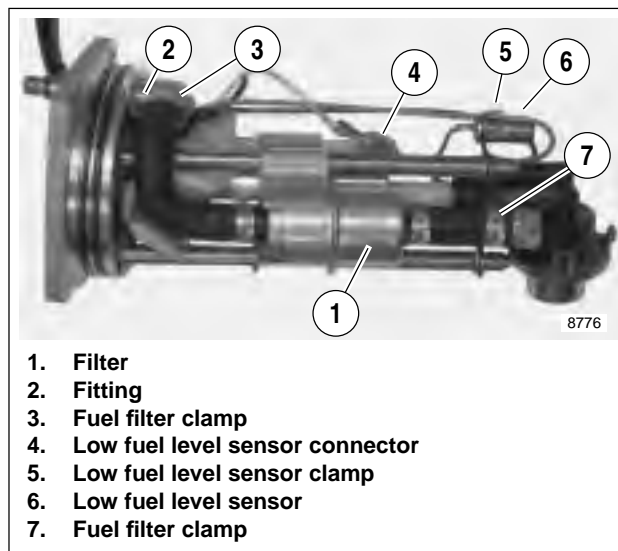
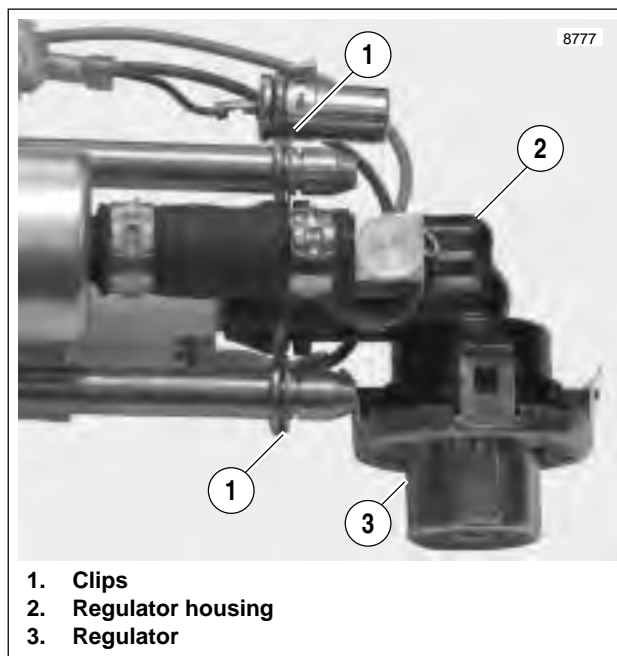
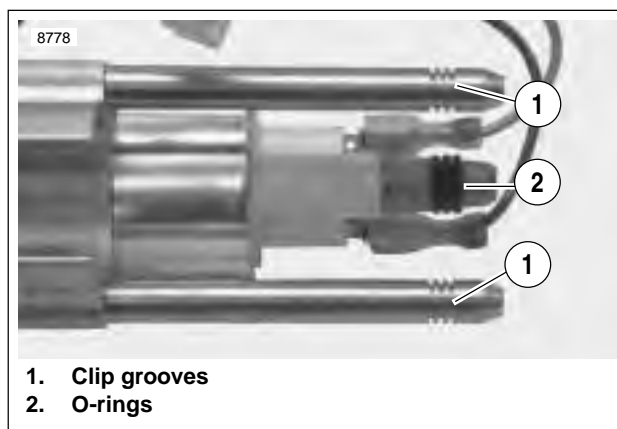

Figure 4-89. Fuel Pump Assembly (right side)
Figure 4-90. Fuel Pump Clips
Figure 4-91. Regulator Housing O-rings
2. See Figure 4-89. Disconnect low fuel level sensor connector (4).
3. Remove clamp (5) securing low fuel level sensor (6) in place.
2. See Figure 4-89. Remove fuel pump clamps (3, 7).
3. See Figure 4-90. Remove fuel pump clips (1).
4. Pull regulator housing (2) from fuel pump assembly.
5. See Figure 4-91. Discard regulator housing o-rings (2).
6. See Figure 4-89. Remove fuel filter hose from fitting (2) and remove fuel filter (1).
8. Install **new** fuel filter hose with 90° bend towards fitting (2).
9. See Figure 4-91. Install **new** regulator housing o-rings.
11. See Figure 4-89. Tighten fuel filter clamps (3, 7).
12. See Figure 4-90. Install clips (1) into center grooves.
2. See Figure 4-89. Remove fuel filter clamp (3). Disconnect hose from fitting (2).
3. See Figure 4-90. Remove clips (1).
9. See Figure 4-89. Attach fuel filter hose to fitting (2) with clamp (3).
10. See Figure 4-90. Install clips (1) into middle grooves.
14. See Figure 4-89. Attach fuel filter hose to fitting (2) with clamp (3).
15. See Figure 4-90. Install clips (1) into middle grooves.